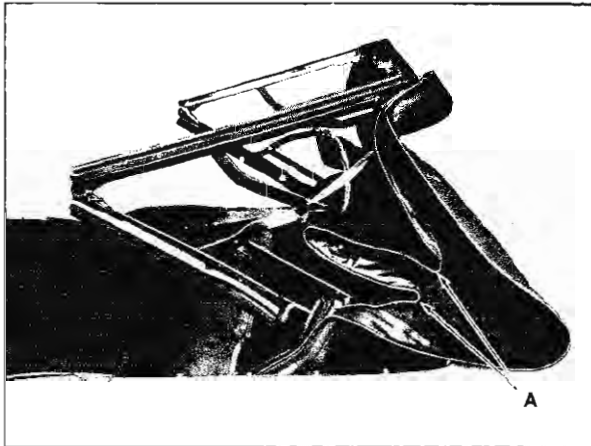

Fig. 21-5 Pull Padding Fron Between Arms
A. Actuate power top control switch until front top rail is approximately two feet from full down position (Fig. 21-5).
B. On right and left side of body, pull top material and padding "A" from between operating arms of top (Fig. 21-5).
C. Pull top material and padding "A" from between operating arms of top as shown in the illustration (Fig. 21-5).